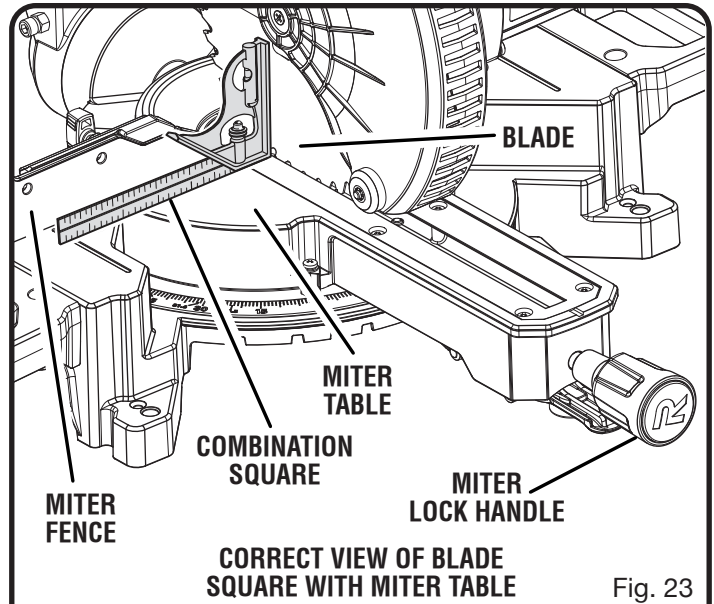

Fig. 23
See Figures 23 - 25.
- The edge of the square and the saw blade should be parallel as shown in figure 23.